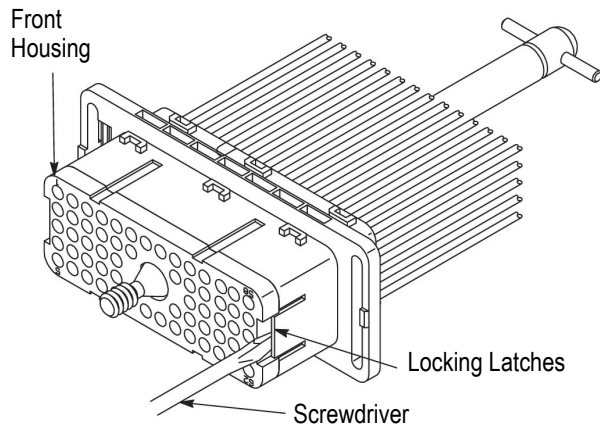

Figure 3
3. To disassemble the plug connector, use a small screwdriver to deflect the housing latches on one end to disengage the latch and move the front housing slightly forward. Repeat on the other end of the connector. Slide the front housing forward until the secondary latches engage. With the housings in this position, the contacts can be removed. See Figure 3.